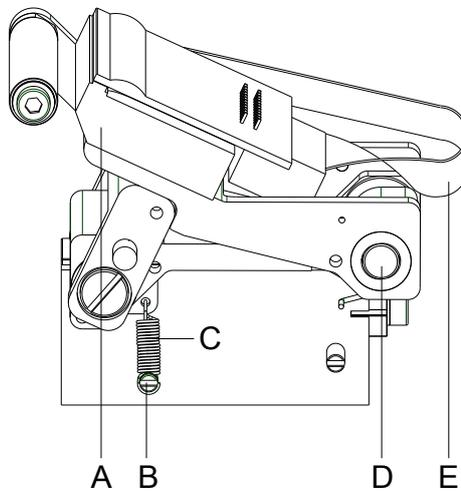

Figure 18
3. Remove the printhead cable (E, Figure 18) from the printhead (A, Figure 18).